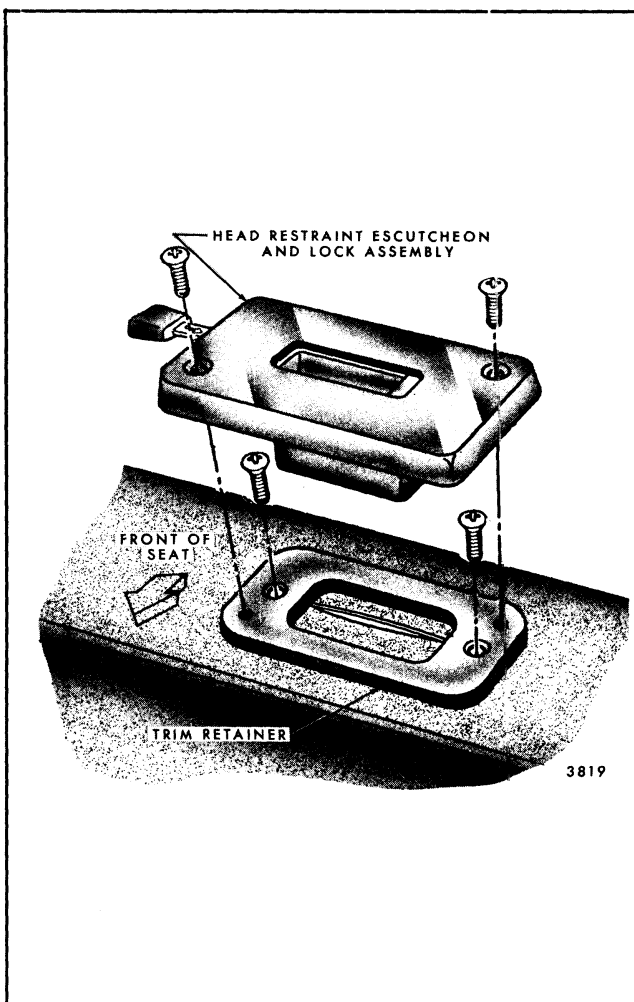

Fig. 9-46-Front Seat Back Head Restraint Retainer, Lock and Escutcheon - Conventional and 60-40 Seats
2. Remove lock and escutcheon assembly attaching screws and remove lock and escutcheon (Fig. 9-46).
1. Remove front seat back and head restraint lock and escutcheon assembly, as previously described. Remove trim retainer (see Fig. 9-46).